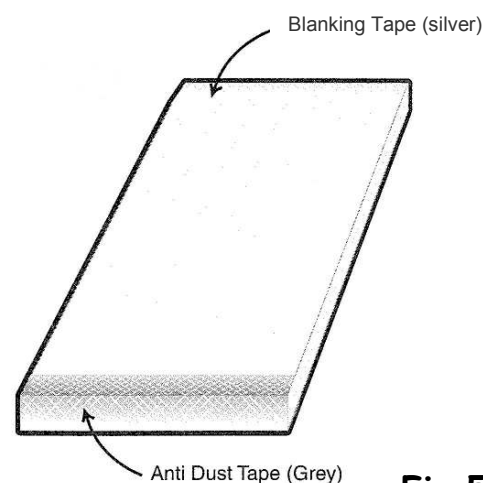

Fig.5
Step 6: Cut to size sheet is supplied blown free of dust and taped, ready to fit. If cutting sheet on site, you must ensure the flutes of the polycarbonate are free of any dust or swarf. This is done by blowing air through the flutes and sealing the ridge end of the sheet with blanking tape (PBT16/25, silver in colour). Seal the eaves (gutter) end of the sheet with anti-dust breather tape (Ref. FT16/25, grey in colour). This process helps prevent dust entry whilst allowing condensation drainage (Fig.5).